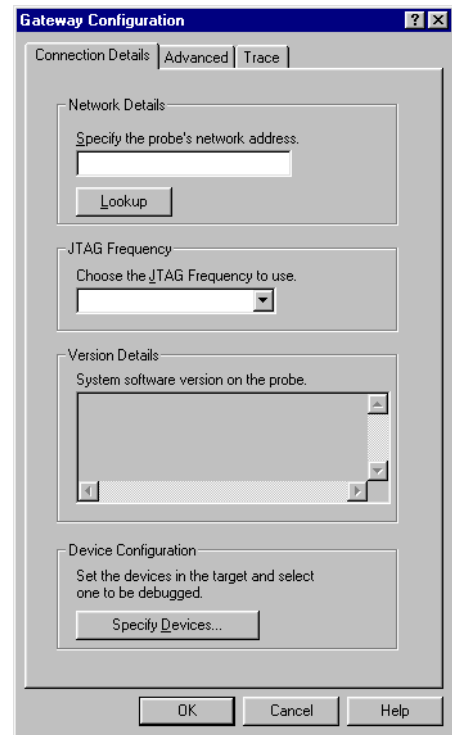

Figure B-15 Gateway Configuration dialog box, Connection Details tab
5. Right-click on the ADI entry and select **Configure Device Info...** from the context menu to show the Gateway Configuration dialog box, shown in Figure B-15 on page B-20.
5. Right-click on the ADI entry and select **Configure Device Info...** from the context menu to show the Gateway Configuration dialog box (Figure B-15 on page B-20).